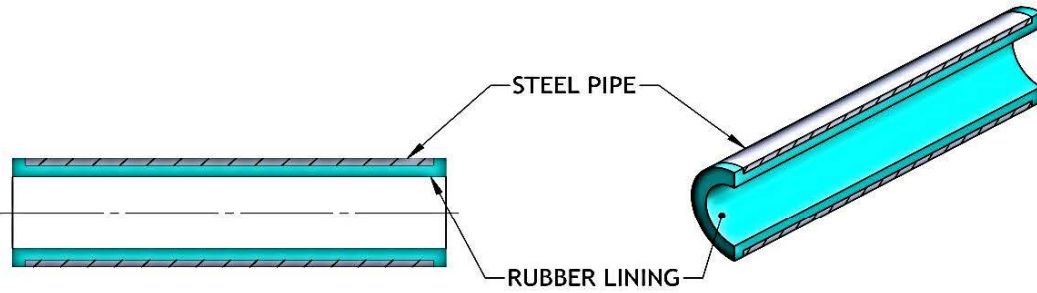
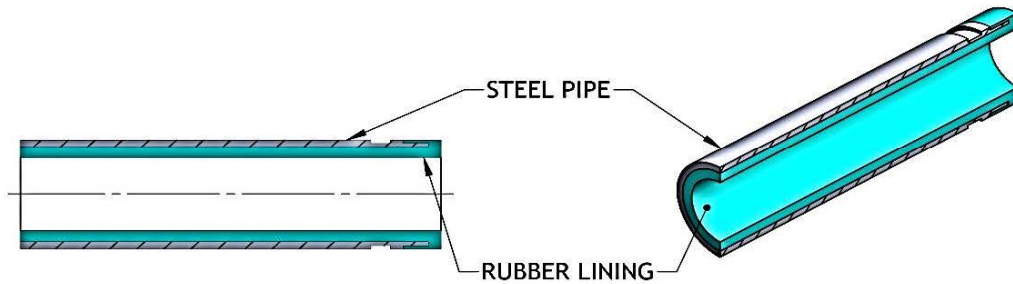

Fig. 8-6-1 Rubber lining construction for Victaulic pipe (Single grooved pipe)
Fig. 8-6-2 Rubber lining construction for Victaulic pipe (Double grooved pipe for corrosion application)
- 5.2 When using 1/8" through 1/4" linings the tube lining should be extended over the end of the pipe and bent back into the recess on the outside of the pipe. Apply a round of tape over the OD of outside rubber. After cure, remove the tape and buff the OD flush with OD of metal. See Fig. 8-6-1 and Fig. 8-6-2 for rubber lining constructions including single grooved pipe and double grooved pipe for Victaulic pipe.